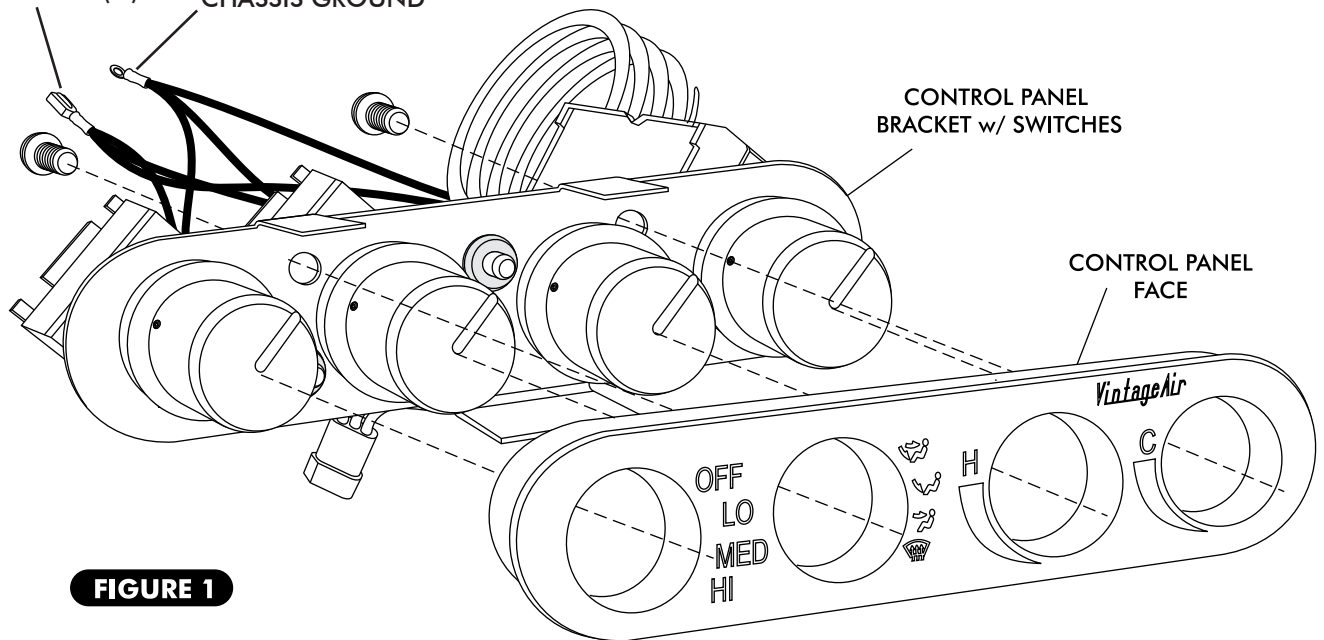

FIGURE 1
- ☐ REMOVE (3) CONTROL PANEL BRACKET MOUNTING SCREWS AND REMOVE THE CONTROL PANEL BRACKET WITH SWITCHES FROM CONTROL PANEL FACE. SEE FIGURE 1, PAGE 5